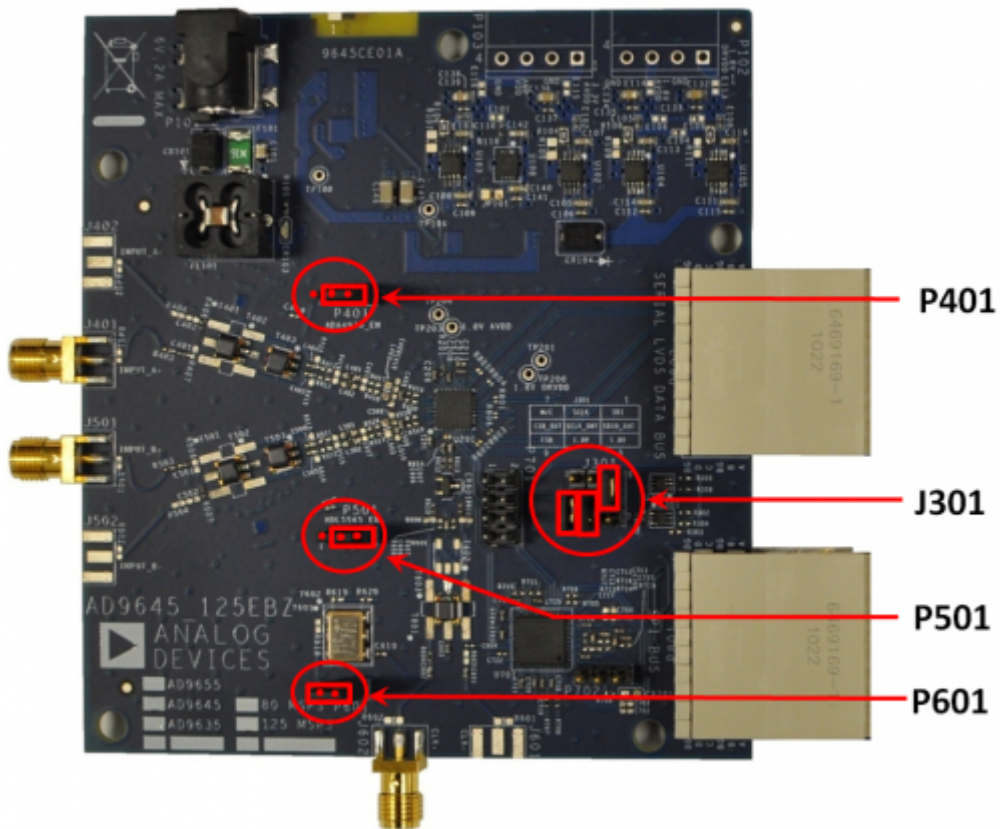

Figure 2. Default Jumper Connections for AD9645-125EBZ/AD9635-125EBZ Board
5. On the ADC evaluation board, confirm that the jumpers are installed as shown in Figure 2.
Set the jumper settings/link options on the evaluation board for the required operating modes before powering on the board. The functions of the jumpers are described in Table 1. Figure 2 shows the default jumper settings.